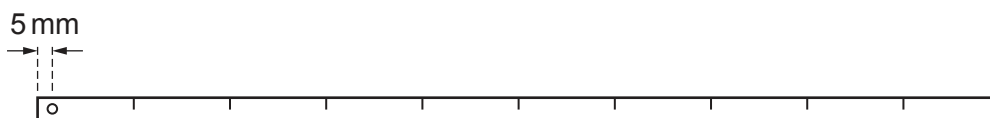

Fig. 1.1
- 1 The metre rule should have a hole of diameter 3 mm drilled in it at a distance of 5 mm from one end, as shown in Fig. 1.1.